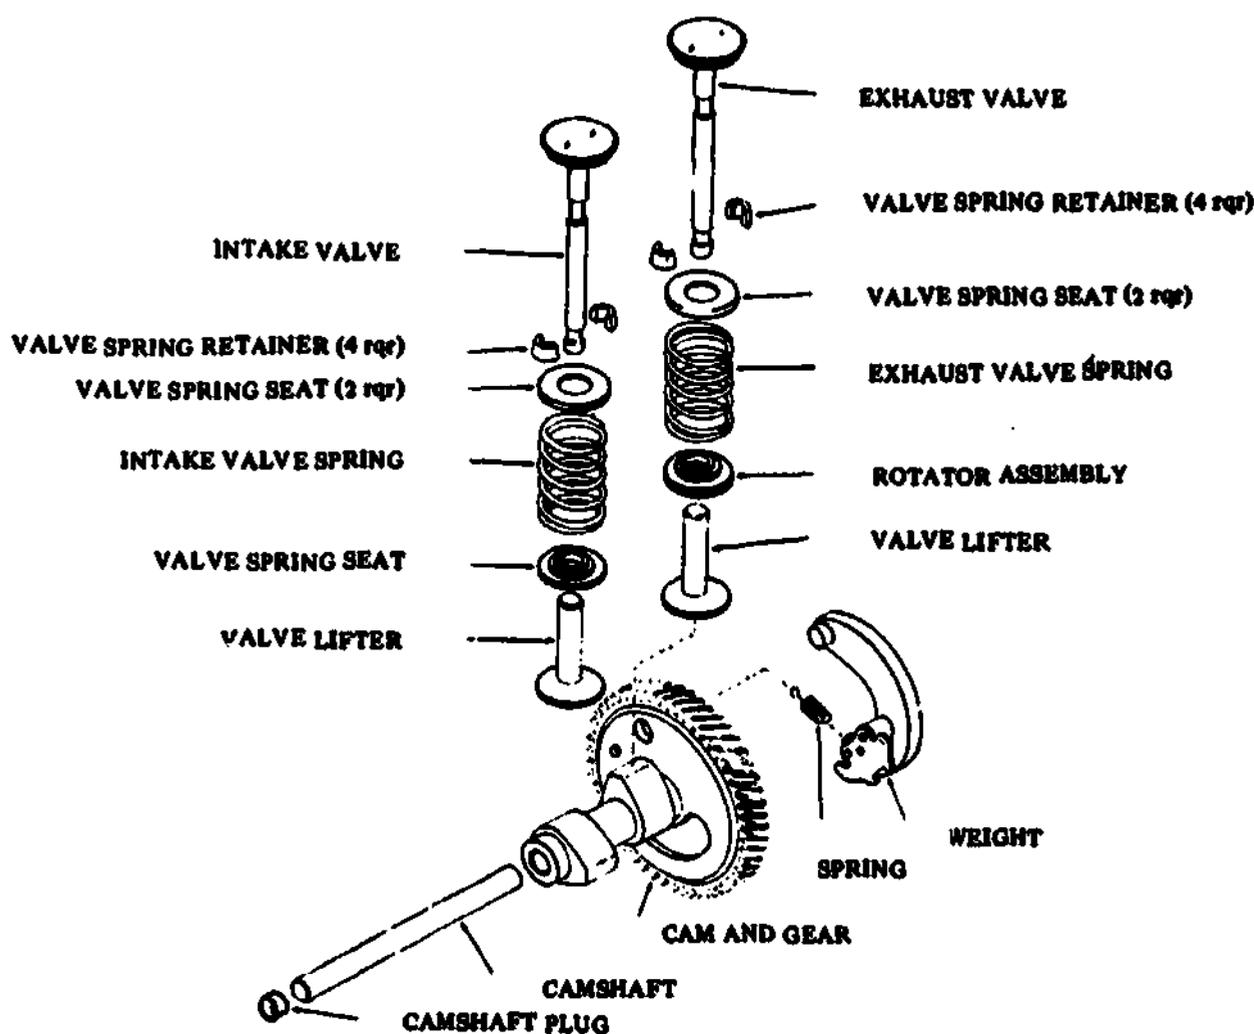

Fig 2-4 . Exploded view of valve mechanism.
- (d) **Valve mechanism (fig 2-4).** Defective valves can cause the engine to misfire, back-fire, or fail to start. They can be repaired or replaced with little difficulty by removing the cylinder head, carburetor and intake, and the exhaust; then removing the valves for examination and repair. Clean the carbon and gum deposits from the valves and the valve seats. Check the diameter of the valve stem for wear and the valve face for wear or pits. Check the valve seat for pits and cracks. Check the valve springs for tension and breaks. Use a new valve stem and check the valve guides for wear. Replace those parts which cannot be repaired. If the valve face can be repaired and the stem is good, reface it on the valve-refacing machine. Reface the valve seats and clean thoroughly to remove the valve-grinding compound. Install the parts and adjust by turning the engine until one valve spring is completely compressed and then adjust the other. On some models of the engine, the valves must be removed and the end of the stem ground to obtain more clearance. If the engine is completely disassembled, the cam lobes, camshaft gear, and the spark advance for gear-driven, self-contained magnetos should also be checked.